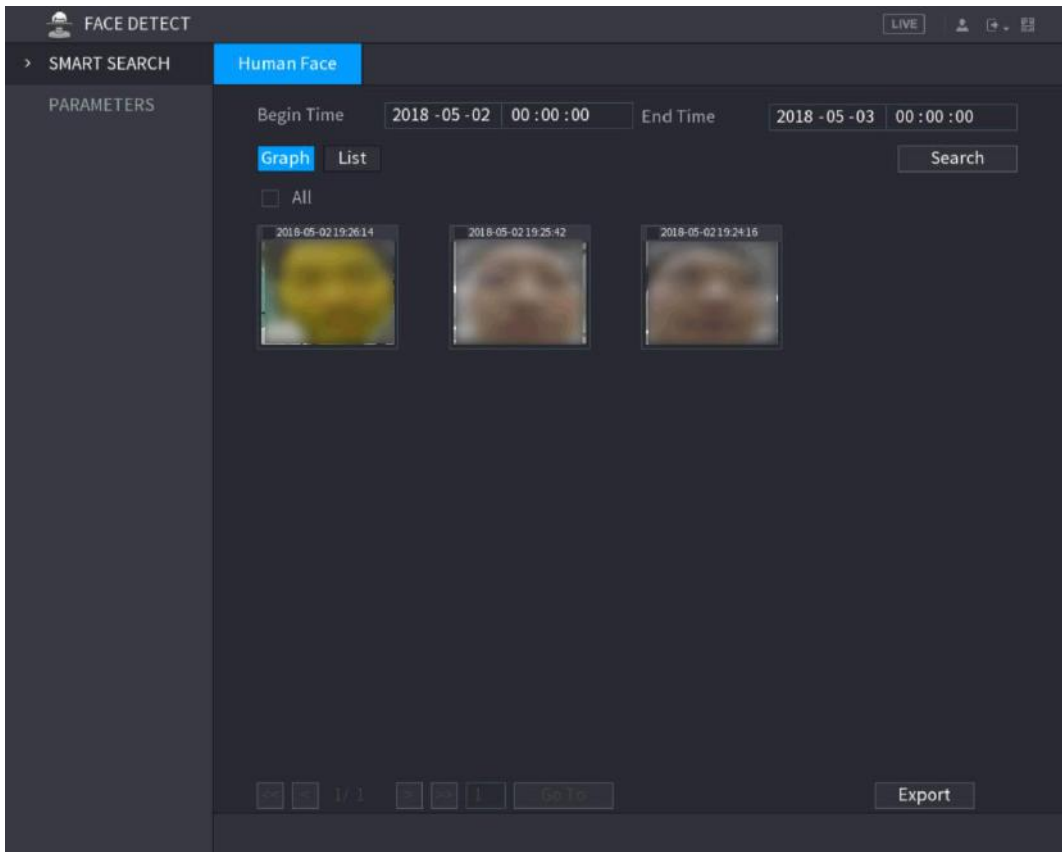
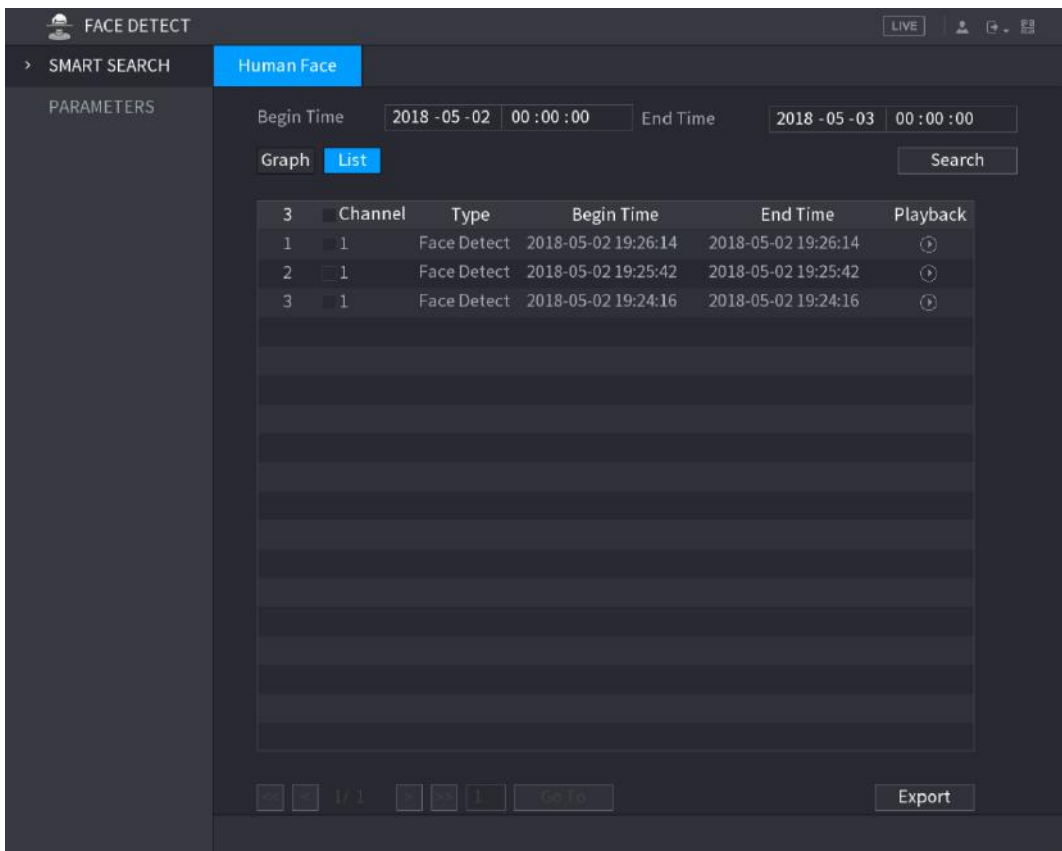

Figure 5-158
Figure 5-159
The faces searched in the defined period are displayed. See Figure 5-158 or Figure 5-159.
Step 1 On the displayed faces as shown in Figure 5-158, double-click on the face.